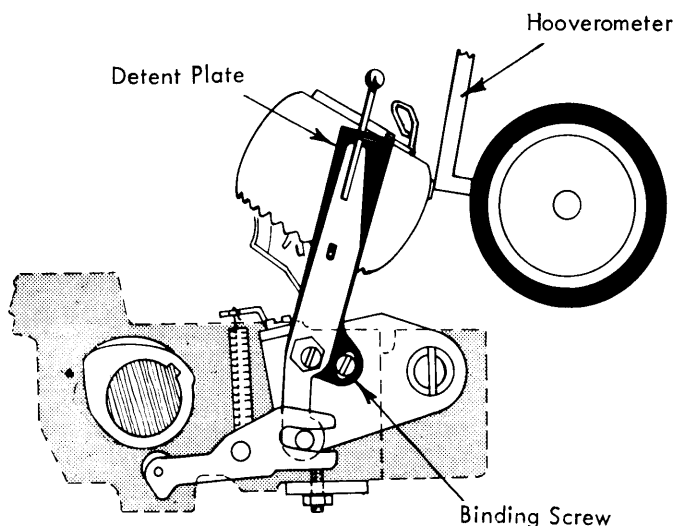

FIGURE 92. Powered Travel
12. Powered Travel - With the cycle shaft latched at rest and the impression control lever set at position 4, loosen the binding screw and move the detent plate forward or back until a clearance of .250" exists between the platen and the center of the letter "Z" (Fig. 92). This clearance can easily be measured with the foot of the Hooverometer which is approximately .250". When measuring the adjustment, remove the tilt ring play by depressing lightly on the rear of the tilt ring.